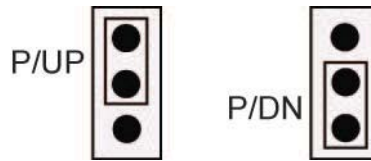

Figure 8. Pull-up/down jumper configuration
5. Set each jumper for pull-up (P/UP) or pull-down (P/DN), as shown in Figure 8. Use the jumper labeled DIO A to configure Port A, and DIO B to configure Port B.